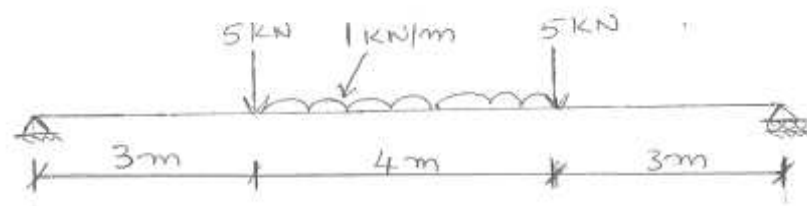

Figure 4
4. Sketch the shear force and bending moment diagrams showing the salient values for the loaded beam shown in the figure 4 below. [16]